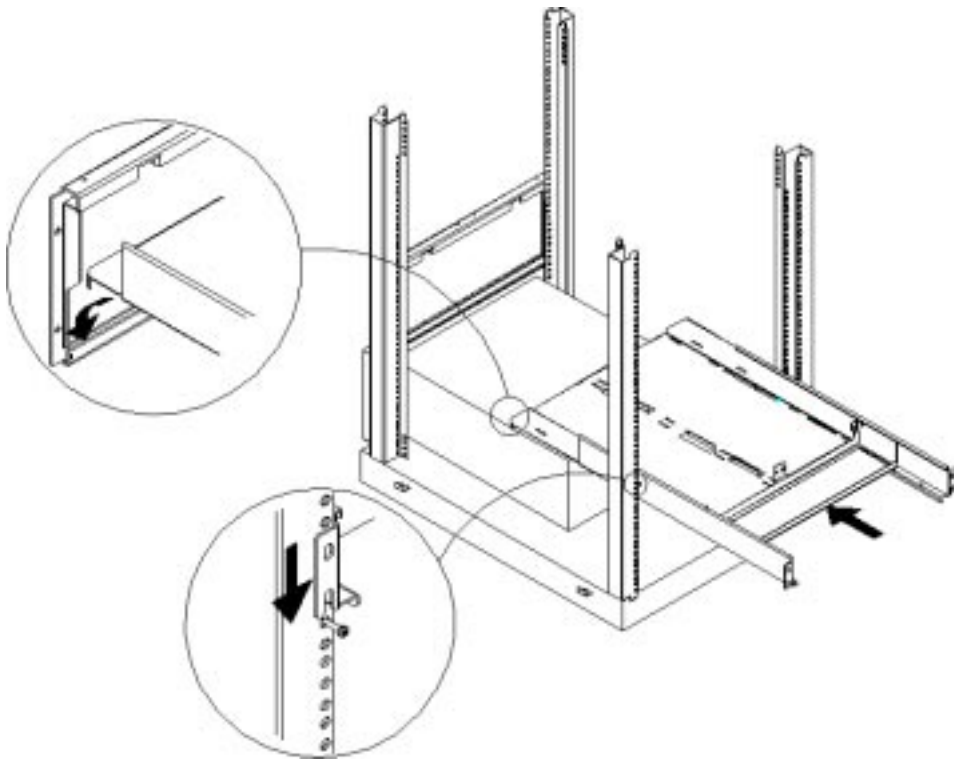

FIGURE 1-4 Shelf Installation
4. Slide the shelf through the back of the rack until the front lip is over the bezel and the rear portion of the shelf slides over the back screws (FIGURE 1-4).